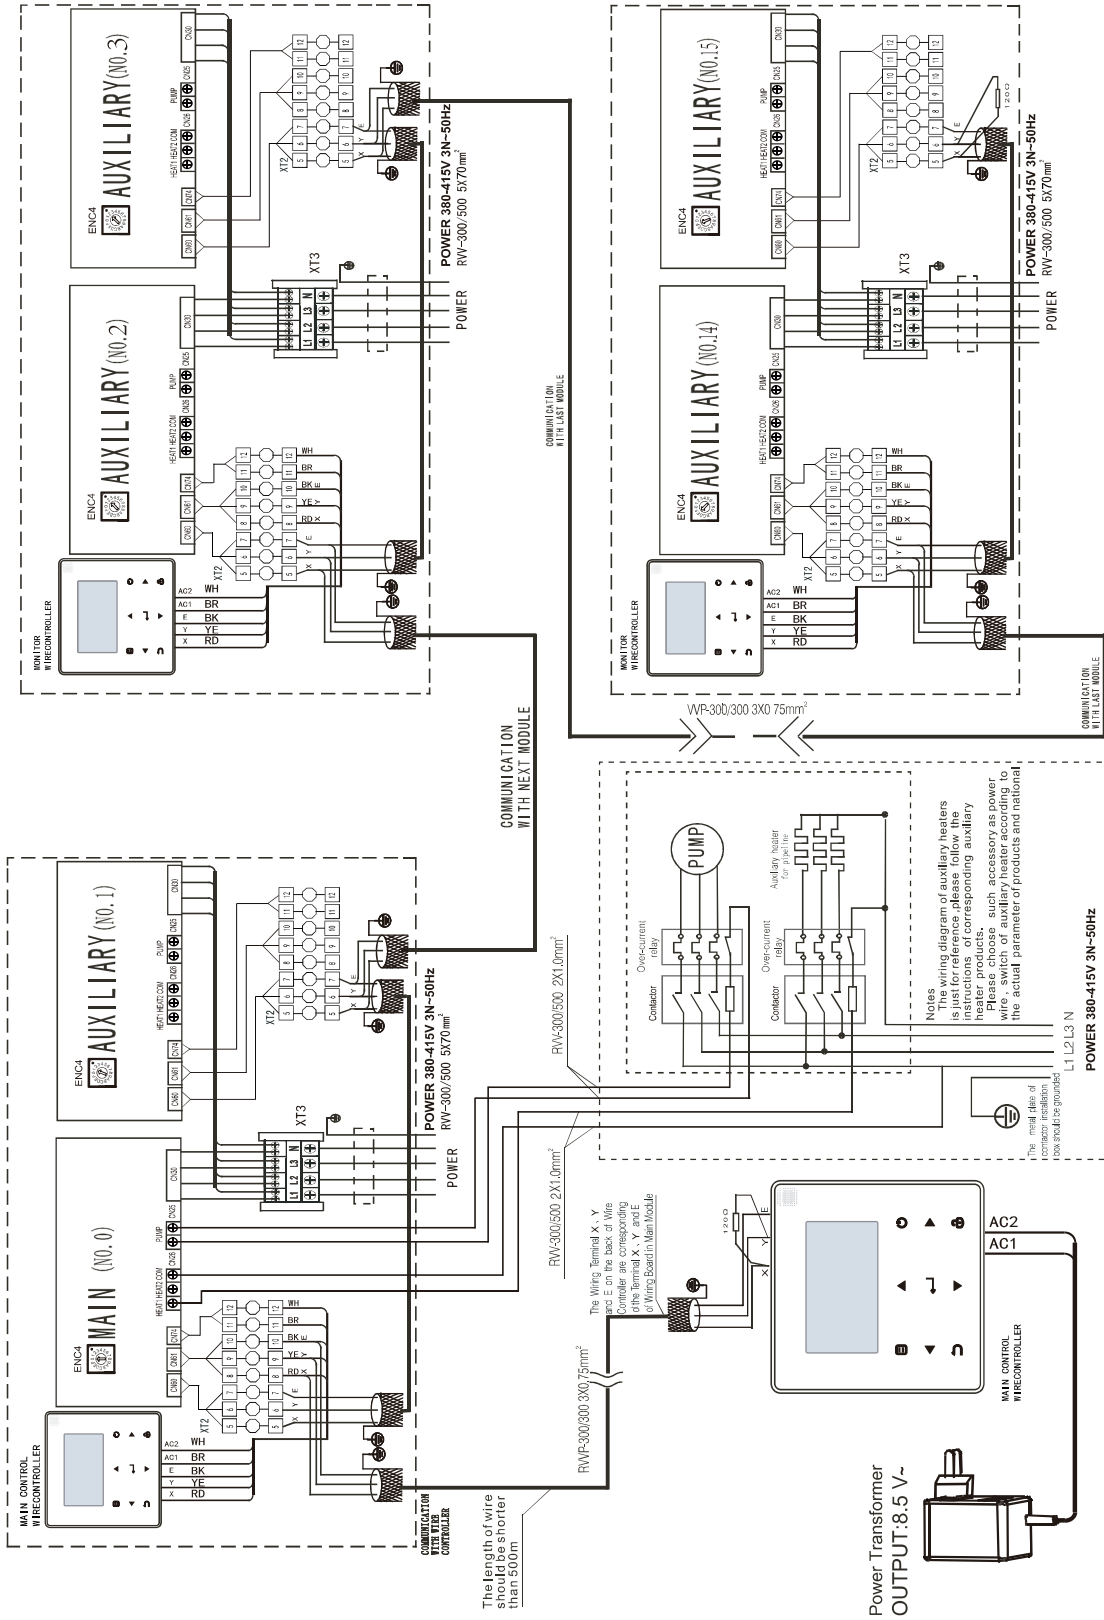

Fig. 8-28 Networking communication schematic of main unit and auxiliary unit for MC-SU180-RN8L-B
- c) The inlet pipe of the evaporator must be provided with a target flow controller, to realize flow-break protection for the unit. Both ends of the target flow controller must be supplied with horizontal straight pipe sections whose diameter is 5 times that of the inlet pipe. The target flow controller must be installed in strict accordance with "Installation & Regulation Guide for Target Flow Controller" (Fig.8-28,8-29). The wires of the target flow controller should be led to the electric cabinet through shielded cable (see Electric Controlling Schematic Diagram for details). The working pressure of the target flow controller is 1.0MPa, and its interface is 1 inch in diameter. After the pipelines are installed, the target flow controller will be set properly according to the rated water flow of the unit.